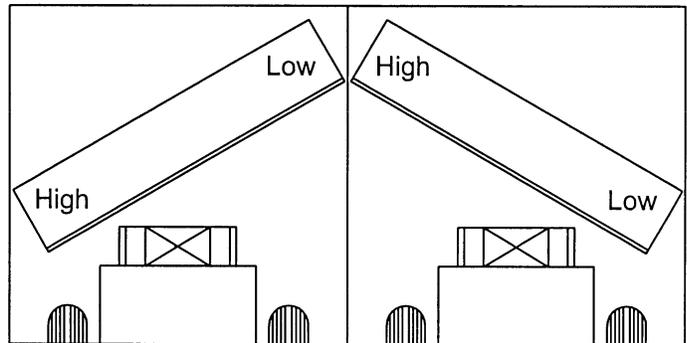

Figure 16
- Figure 16, loosen hardware that attaches the swing assembly to the brush head assembly; lower the left-hand side of the brush head until both sides are an equal distance above the ground. Tighten the hardware.